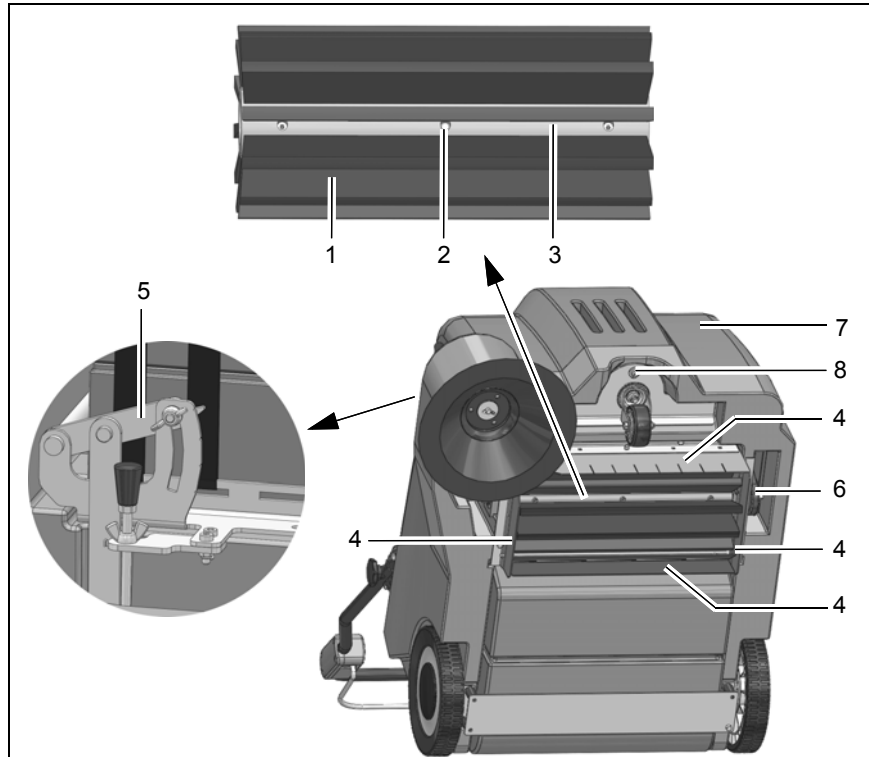

Fig.9
The brush space with rotary brush (Fig. 9/1) and gaskets (Fig. 9/4) must be checked daily for signs of dirt and cleaned, if necessary.
The rotary brush (Fig. 9/1) must be checked weekly and changed in the case of wear.
2. Loosen the six fillister head screws (Fig. 9/2) in the rotary brush and remove the two roller segments.
In the case of brush wear, and after changing the rotary brush (Fig. 9/1), re-adjust the sweeping pattern.
1. Switch the machine off, unscrew the locking bolt (Fig. 9/8) and open the hood (Fig. 9/7).
2. Loosen the wing nut on the adjusting lever (Fig. 9/5) and adjust the
8. Close the hood (Fig. 9/7) and screw the locking bolt (Fig. 9/8) back in.
The four sealing strips (Fig. 9/4) must be checked weekly and changed in the case of wear.
2. Remove all four sealing strips (Fig. 9/2) with holders.
The timing belt (Fig. 9/6) must be checked every 500 operating hours and changed in the event of wear.
2. Slacken the timing belt (Fig. 9/6) using the tension pulley and remove the belt.
4. Close the hood (Fig. 9/7) and screw the locking bolt (Fig. 9/8) back in.